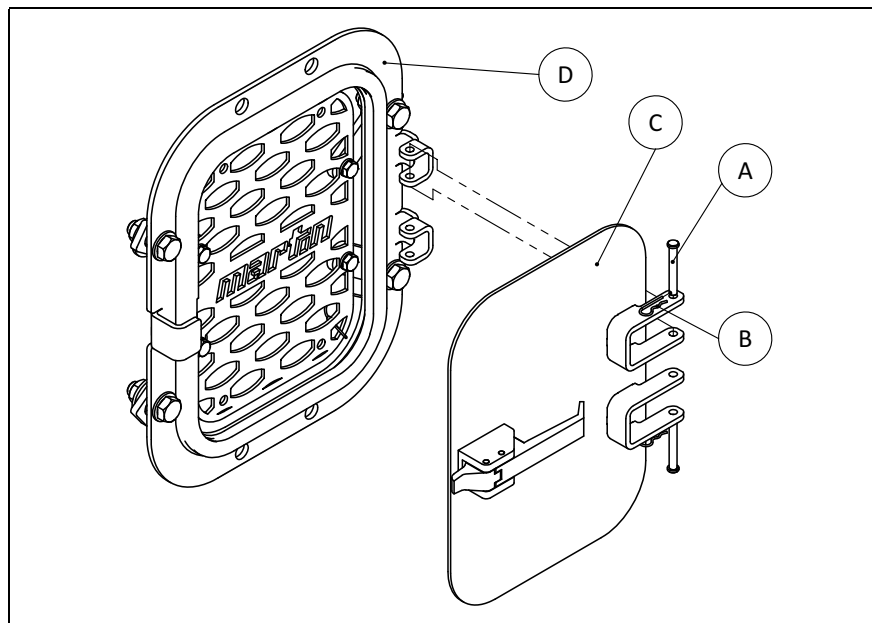

Fig. 2: Installing the Martin® inspection door with steel door
1. The two spring cotters (B, Fig.2) and the two bolts (A, Fig.2) should be taken off the hinges and the steel door (C, Fig.2) taken off the door frame (D, Fig.2).